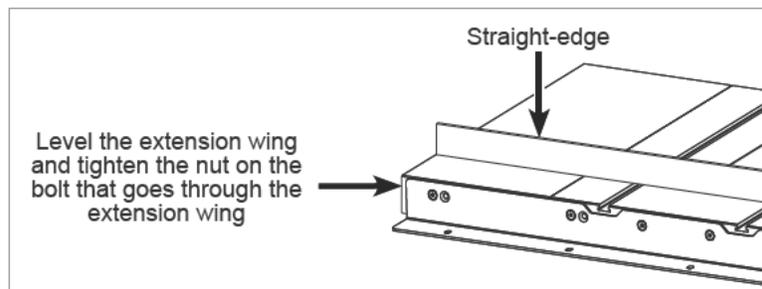

Fig. 8
6. Use a straight-edge to level the front edge of the left extension wing to the cast iron table top (See Fig. 8). You may have to pull up or push down on the outer edge of the extension wing to level it. Once the front edge of the left extension wing is level, use a 5 mm hex key and a 13 mm wrench to fully tighten the nut on the bolt that mounts the left extension wing to the front rail. Repeat this process to level the front edge of the right extension wing and the rear edges of the left and right extension wings.